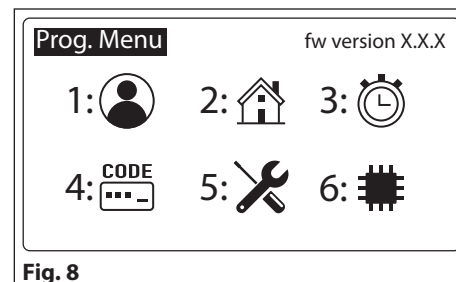

Fig. 8
From Programming menu (**Fig. 8**):
- from the main programming (**Fig. 8**), press **"1"** to enter the user menu;
- from the main Programming menu (**Fig. 8**), press **"1"** to enter the user menu;